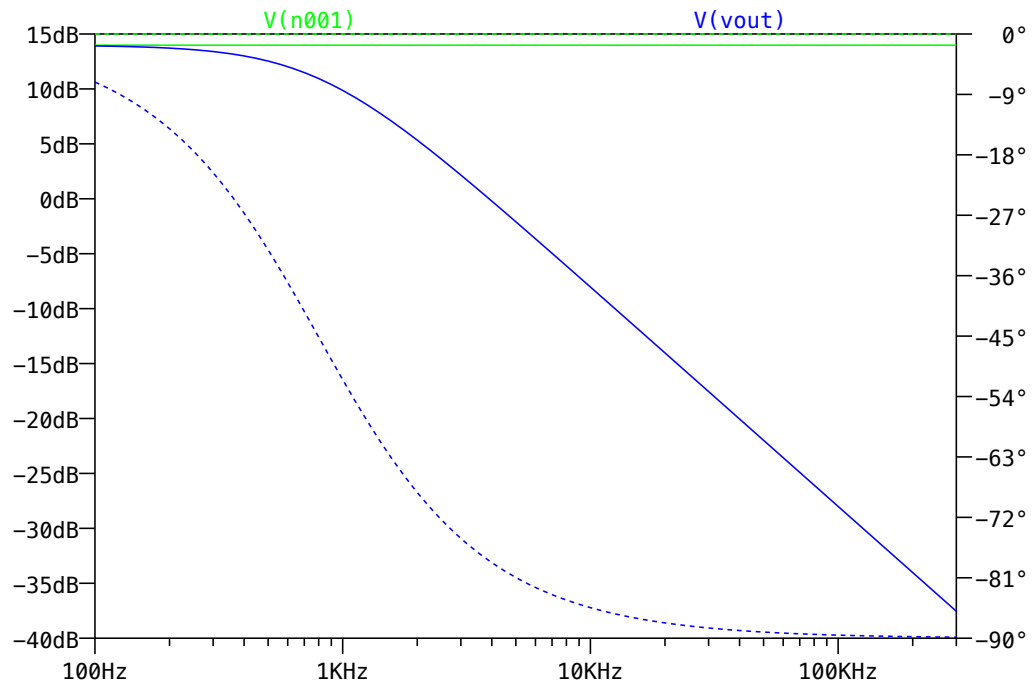

Figure 2: Log-Log (dB vs log(frequency)) Plot of Vout From Circuit of Figure 1
2. From plotting window (which should come up immediately), select the Add Traces option. Add the trace for V(n001) and V(vout). You should see a plot that looks like Figure 2. Collaborate with your lab partner to answer the following questions. Notice that the x-axis (the frequency scale) is logarithmic in nature, and the y-axis (the amplitude scale) is in decibels (dB).² Why is the green curve (V(n001)) constant? The solid blue curve is the output voltage. What is the impact of increasing the frequency of the sine wave? Does this make sense, given the DC characteristics of the capacitor? What does this suggest about the high frequency characteristics of the capacitor? The dotted blue curve is the phase. We’ll come back to that late in this course.